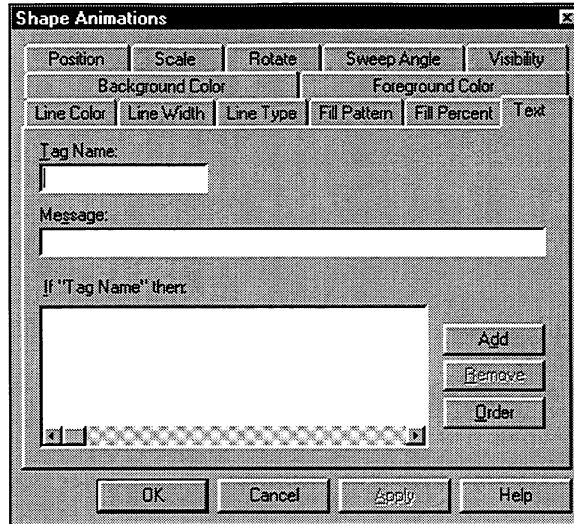

Figure 7-5. Text Animation
3. Select the Text tab to access the Text animation page, as shown in Figure 7-5.